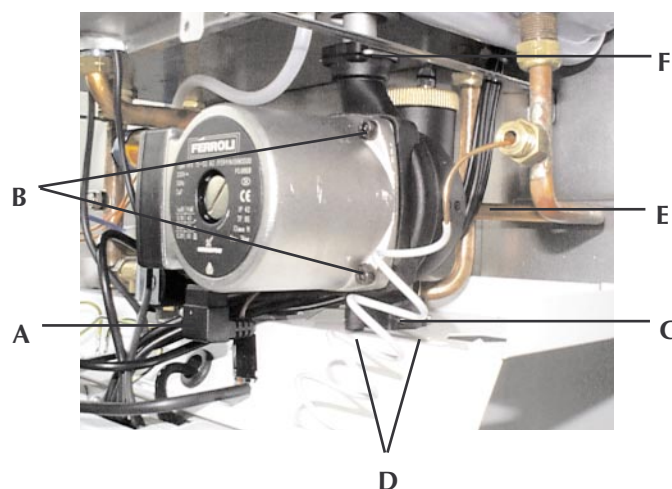

Fig. 36
7.14 Pump (fig. 36)
Replacement of pump body (fig. 36)